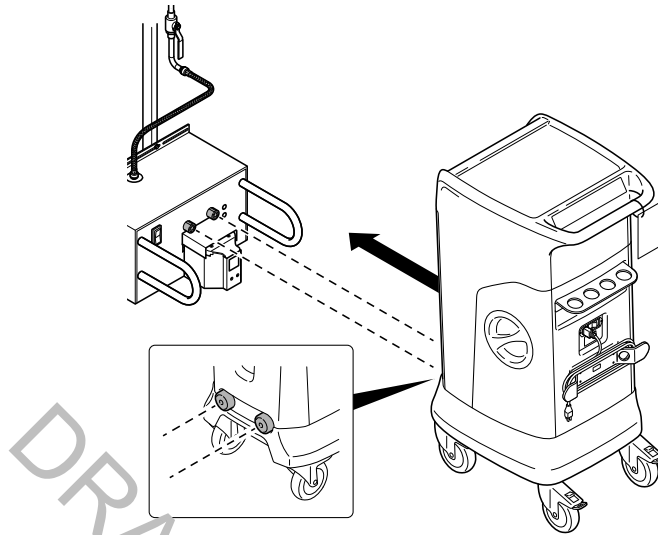

Figure 43 – Dock the Rover
1. Push the rover toward the dock and between the dock guides until the rover and dock engage automatically (Figure 43). Make sure the strike plates of the rover engage with the electromagnets of the dock. Do not lock the casters.